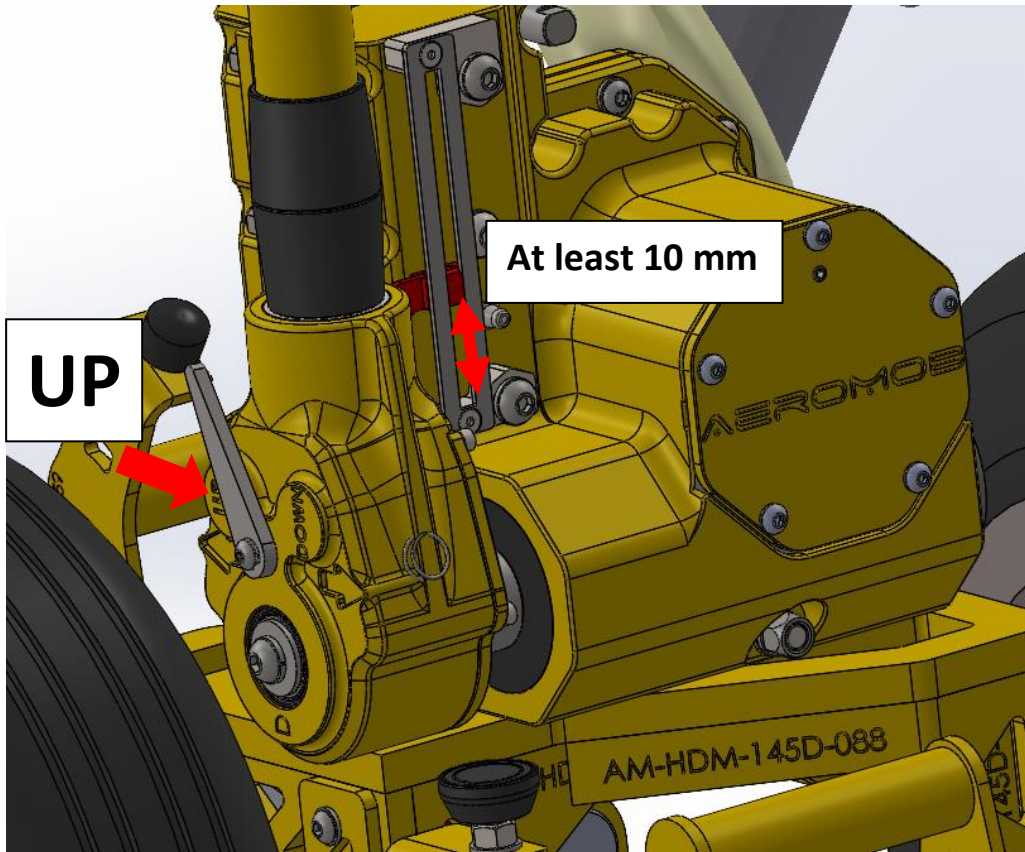

Figure 2
- b. Put the ratchet handle selector lever (5-3/8) in the UP position. Activate the lever bar until the level marker is at least 10 mm from the lower limit of the scale, see Figure 2.